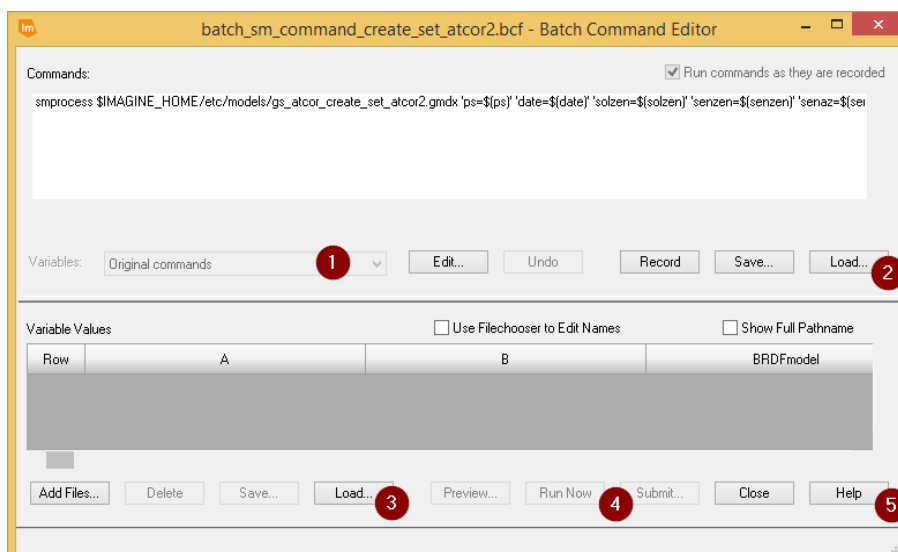

Figure 8: ERDAS IMAGINE Batch Command Editor.
2. Enter all required inputs in the dialog and click the 'Batch' button. The Batch Command Editor opens (Figure 8).
3. Select 'One or more inputs, one output' from the field 'Variables' as shown in Figure 8 (1).
4. Load a prepared **Batch Command File (\*.bcf)** (2).
5. Load a prepared **Batch List File (\*.bls)** (3) corresponding to the loaded Batch Command File. If necessary, check the box 'Show Full Pathname' to see the entries of the loaded list.
6. Click '**Run Now**' or '**Submit**' (4) to launch the batch job. See the ERDAS IMAGINE Help (5) for more information.
1. Click **File > Batch > Open Batch Command File**. The Batch Command Editor opens (Figure 8).
2. Select a prepared **Batch Command File (\*.bcf)** as shown in Figure 8 (2).
3. Load a **Batch List File (\*.bls)**, Figure 8 (3), corresponding to the loaded Batch Command File. If necessary check the box 'Show Full Pathname' to see the entries of the loaded list.
4. Click '**Run Now**' or '**Submit**' (4) to launch the batch job. See the ERDAS IMAGINE Help for more information (5).